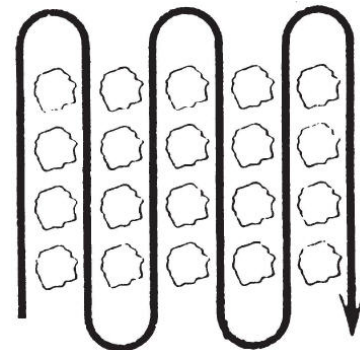

Figure 17
You can use the DR ROTO-HOG POWER TILLER for cultivating (**Figure 17**), which requires a minimum of two (2) inches of soil penetration.
- Set the tines so they will penetrate the soil to a depth of two (2) to three (3) inches.